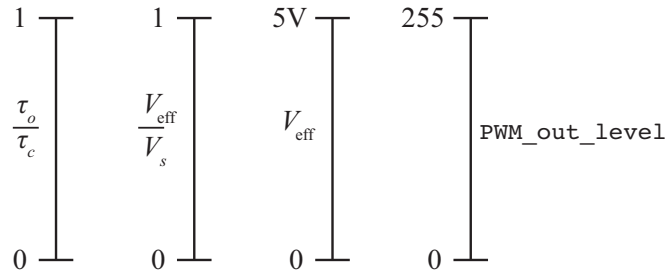

Figure 2: Scaling relationships for PWM parameters. `PWM_out_level` is the 8-bit value used as the second parameter to the `analogWrite` function.
The digital output voltage of an Arduino Uno is either 0 V or 5 V. Thus, in Equation (1),  $V_s = 5$  V. The PWM output level specified with the `analogWrite` is an 8-bit value that corresponds to an effective voltage range of 0 to 5 V. Figure 2 depicts the relationships between the PWM output parameters. The quantities in Figure 2 are linearly related. Thus,